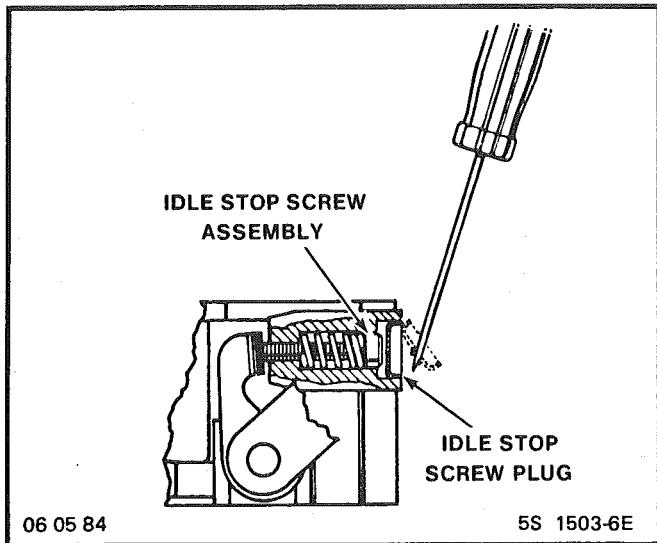

Figure C2-16 Removing Idle Stop Screw Plug
The idle stop screw (16), used to regulate minimum idle speed of the engine, is adjusted at the factory, then is covered with a plug (15) to discourage unnecessary readjustment. However, if it is necessary to gain access to the idle stop screw assembly, proceed as shown in Figure C2-16.